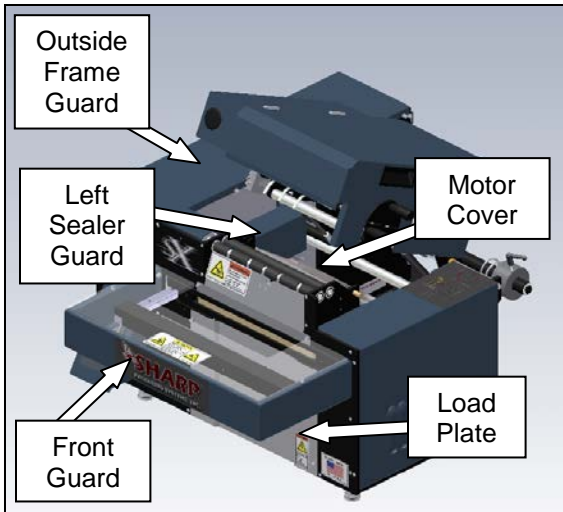

Figure 3-365. Guard Identification
1. Remove the guards identified in Figure 3-365.